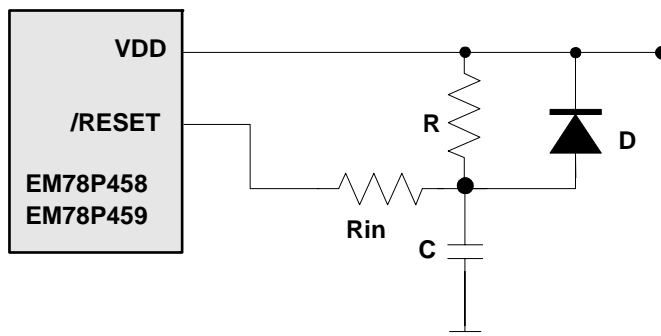

Figure 5-21 External Power on Reset Circuit
The circuits shown in Figure 5-21 use an external RC to produce a reset pulse. The pulse width (time constant) should be kept long enough to allow V_{dd} to reach minimum operation voltage. This circuit is used when the power supply has a slow rise time. Because the current leakage from the /RESET pin is ± 5 μA, it is recommended that R should not be greater than 40K. In this way, the voltage at Pin /RESET is held below 0.2V. The diode (D) acts as a short circuit at power-down. The capacitor, C, is discharged rapidly and fully. R_{in}, the current-limited resistor, prevents high current discharge or ESD (electrostatic discharge) from flowing into Pin /RESET.